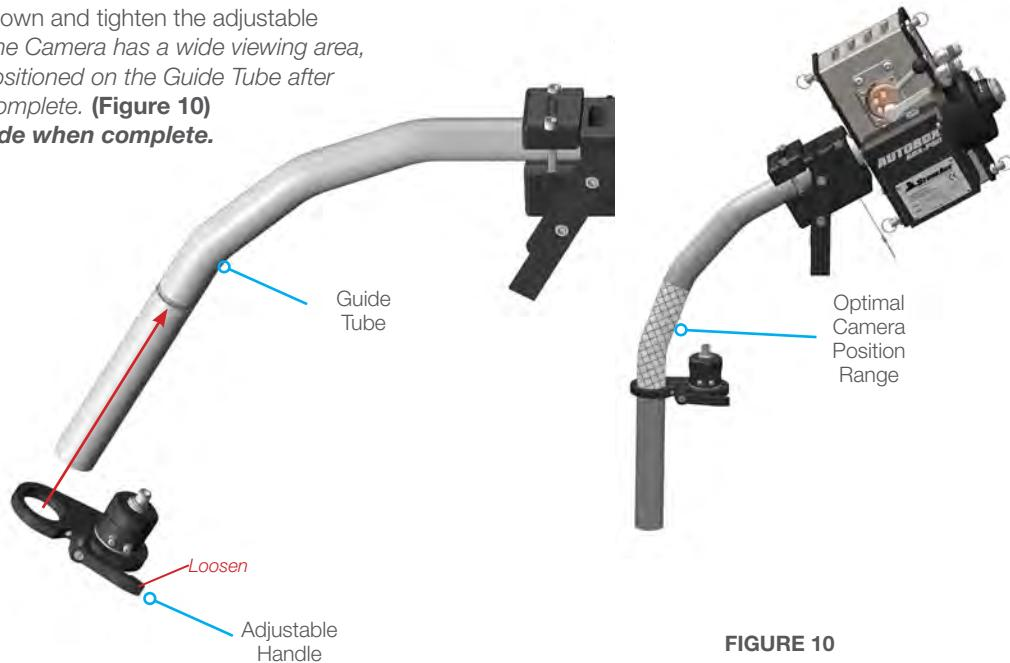

FIGURE 10
5. Orient the Camera as shown and tighten the adjustable handle when in place. *The Camera has a wide viewing area, but may need to be repositioned on the Guide Tube after the whole assembly is complete. (Figure 10)*